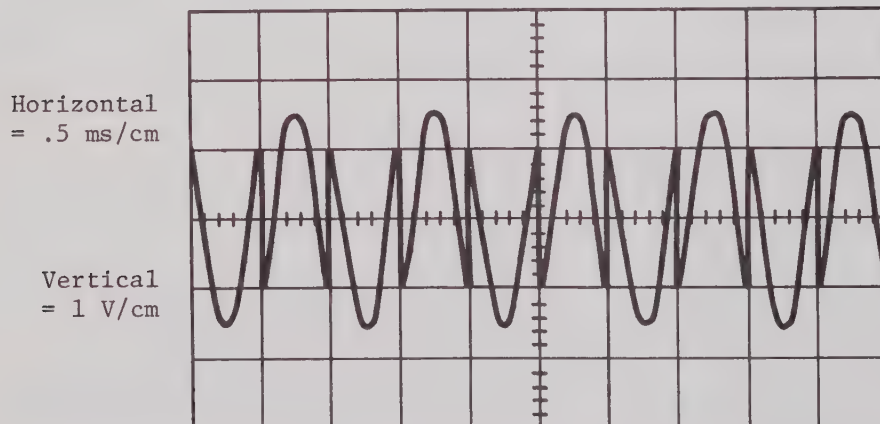

Figure II-1. ALLPASS OUTPUT WITH SQUARE WAVE IN
- (1) Connect the oscilloscope signal input to the Resonance Output.
- (2) Tune the Model 110 frequency controls for a sine wave of maximum amplitude as observed at the oscilloscope. The final setting will be anywhere between 800 Hz and 1200 Hz, depending on the frequency accuracy of the oscilloscope calibrator output.
- (3) Check that the amplitude of the observed sine wave is about 2.5 V peak-to-peak.
- (4) Connect the oscilloscope to the allpass output and observe that the oscilloscope display is as indicated in Figure II-1.